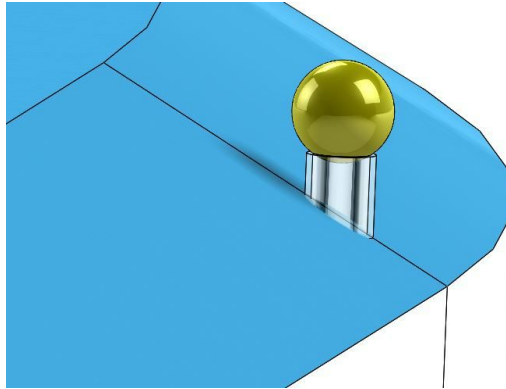

Figure. 6 Locating mechanism of the debris
4. The debris will be located on the top of a diameter 30mm tube as the Figure. 6 shows.